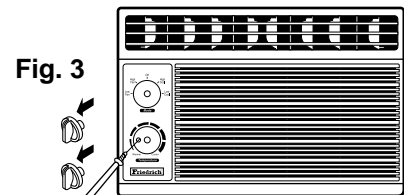

Fig. 3
1. Remove the temperature and mode control knobs by gently pulling them off.(Fig.3)
2. Remove the screw securing the Front Grille.(Fig.3) The screw is located behind the bottom temperature knob.